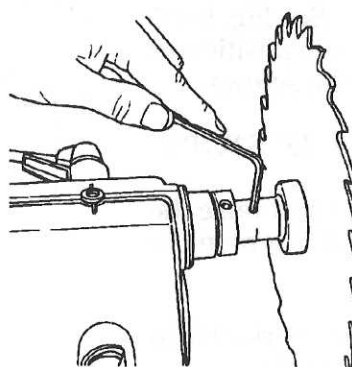
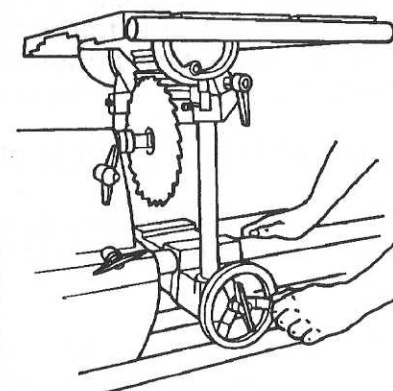

Fig. B-60
Fig. B-61
**20.** Mount the saw blade on the spindle and align the arbor setscrew with the spindle knob's setscrew, then use a 5/32" Allen wrench to tighten the arbor setscrew, as seen in Fig. B-60.
**21.** Re-install the table insert (138) in the worktable.
**23.** Loosen the carriage lock and slide the carriage so the saw blade is directly beneath the slot in the table insert. See Fig. B-61.